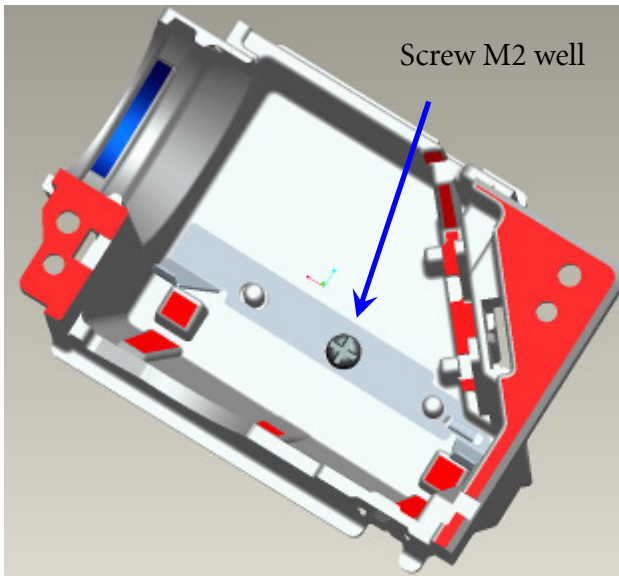

Fig. 2-1
- i. Place "Clip CM Front" first, and screw well (Fig. 2-1).